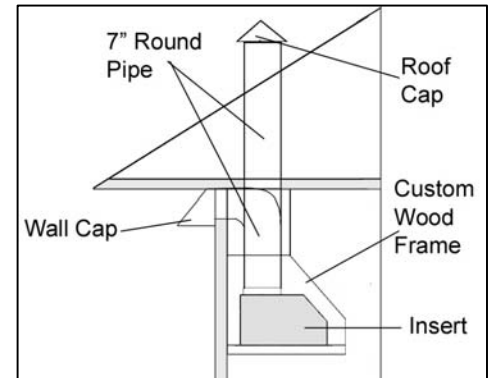

Figure 2
2. Install the Exhaust Plate using 4 screws. Refer to Figure 2.